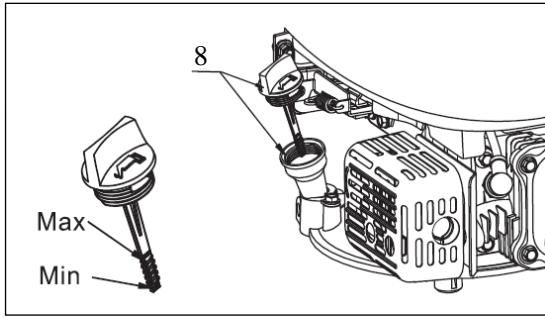

Fig. 6
2. Remove the oil filler cap/dipstick (8) and wipe it clean.
3. Insert the oil filler cap/dipstick (8) into the oil filler neck as shown, but do not screw it in, then remove it to check the oil level.
5. Reinstall the oil filler cap/dipstick (8). (See Fig. 6)